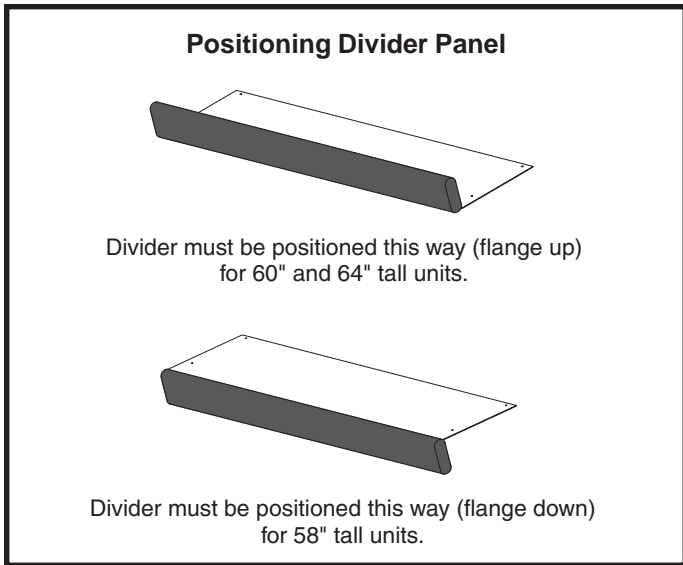

Figure 5
2. Verify divider panel is positioned properly. Figure 5 shows the correct position for 60" and 64" tall units (flange pointing up). For 58" tall units, the divider panel should be positioned so the flange points down.